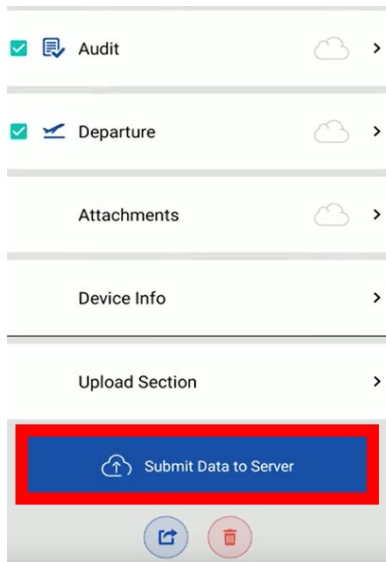

Figure 94: Records – submit data to server
1. Tap **Submit Data to Server** (outlined in Figure 94 on page 91).